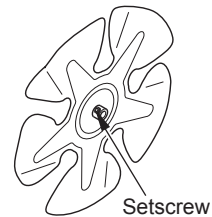

Figure 7 - Setscrew Location
8. Use hex wrench to loosen set screw which holds fan to motor shaft (see Figure 7). Remove fan. Be careful not to damage the fan blade pitch.